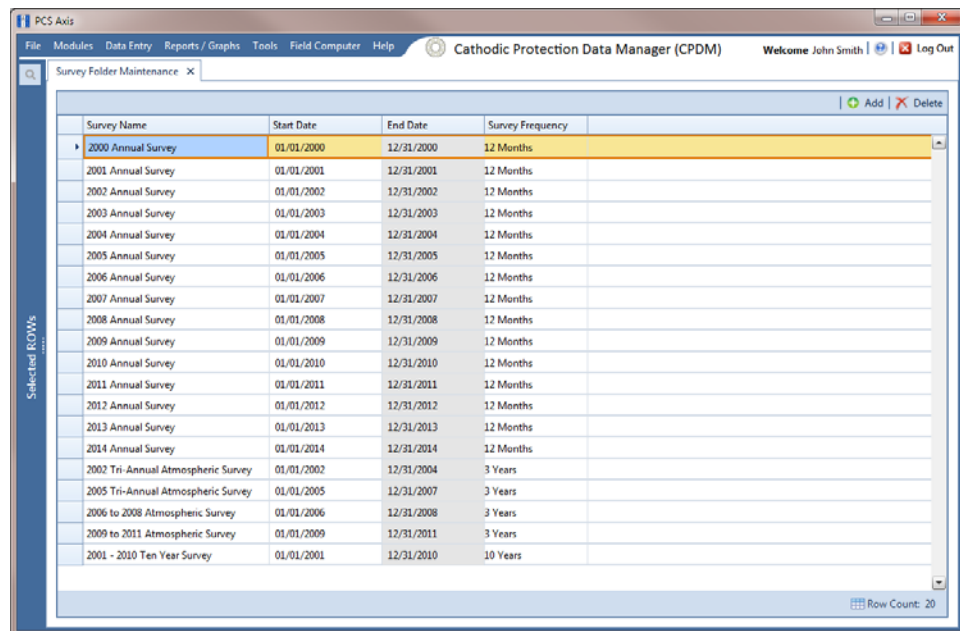

Figure 6-1. Survey Folder Maintenance
Names of facility survey folders typically follow regulatory requirements for surveying pipeline segments and facilities. For example, when you create an annual survey folder labeled *2012 Annual Survey*, you can then assign inspection readings to the facility survey folder throughout the year as they are completed. Names of facility survey folders are editable allowing you to name a survey folder using a naming convention that best suits your business needs. Examples of typical survey folder names include *2012 Feb Monthly Survey* and *2001-2010 Ten Year Survey* (Figure 6-1, page 184).
- 1 Click **Data Entry > Survey Folder Maintenance** to open the *Survey Folder Maintenance* window (Figure 6-1).
- 1 Click **Data Entry > Survey Folder Maintenance** to open the *Survey Folder Maintenance* window (Figure 6-1, page 184).